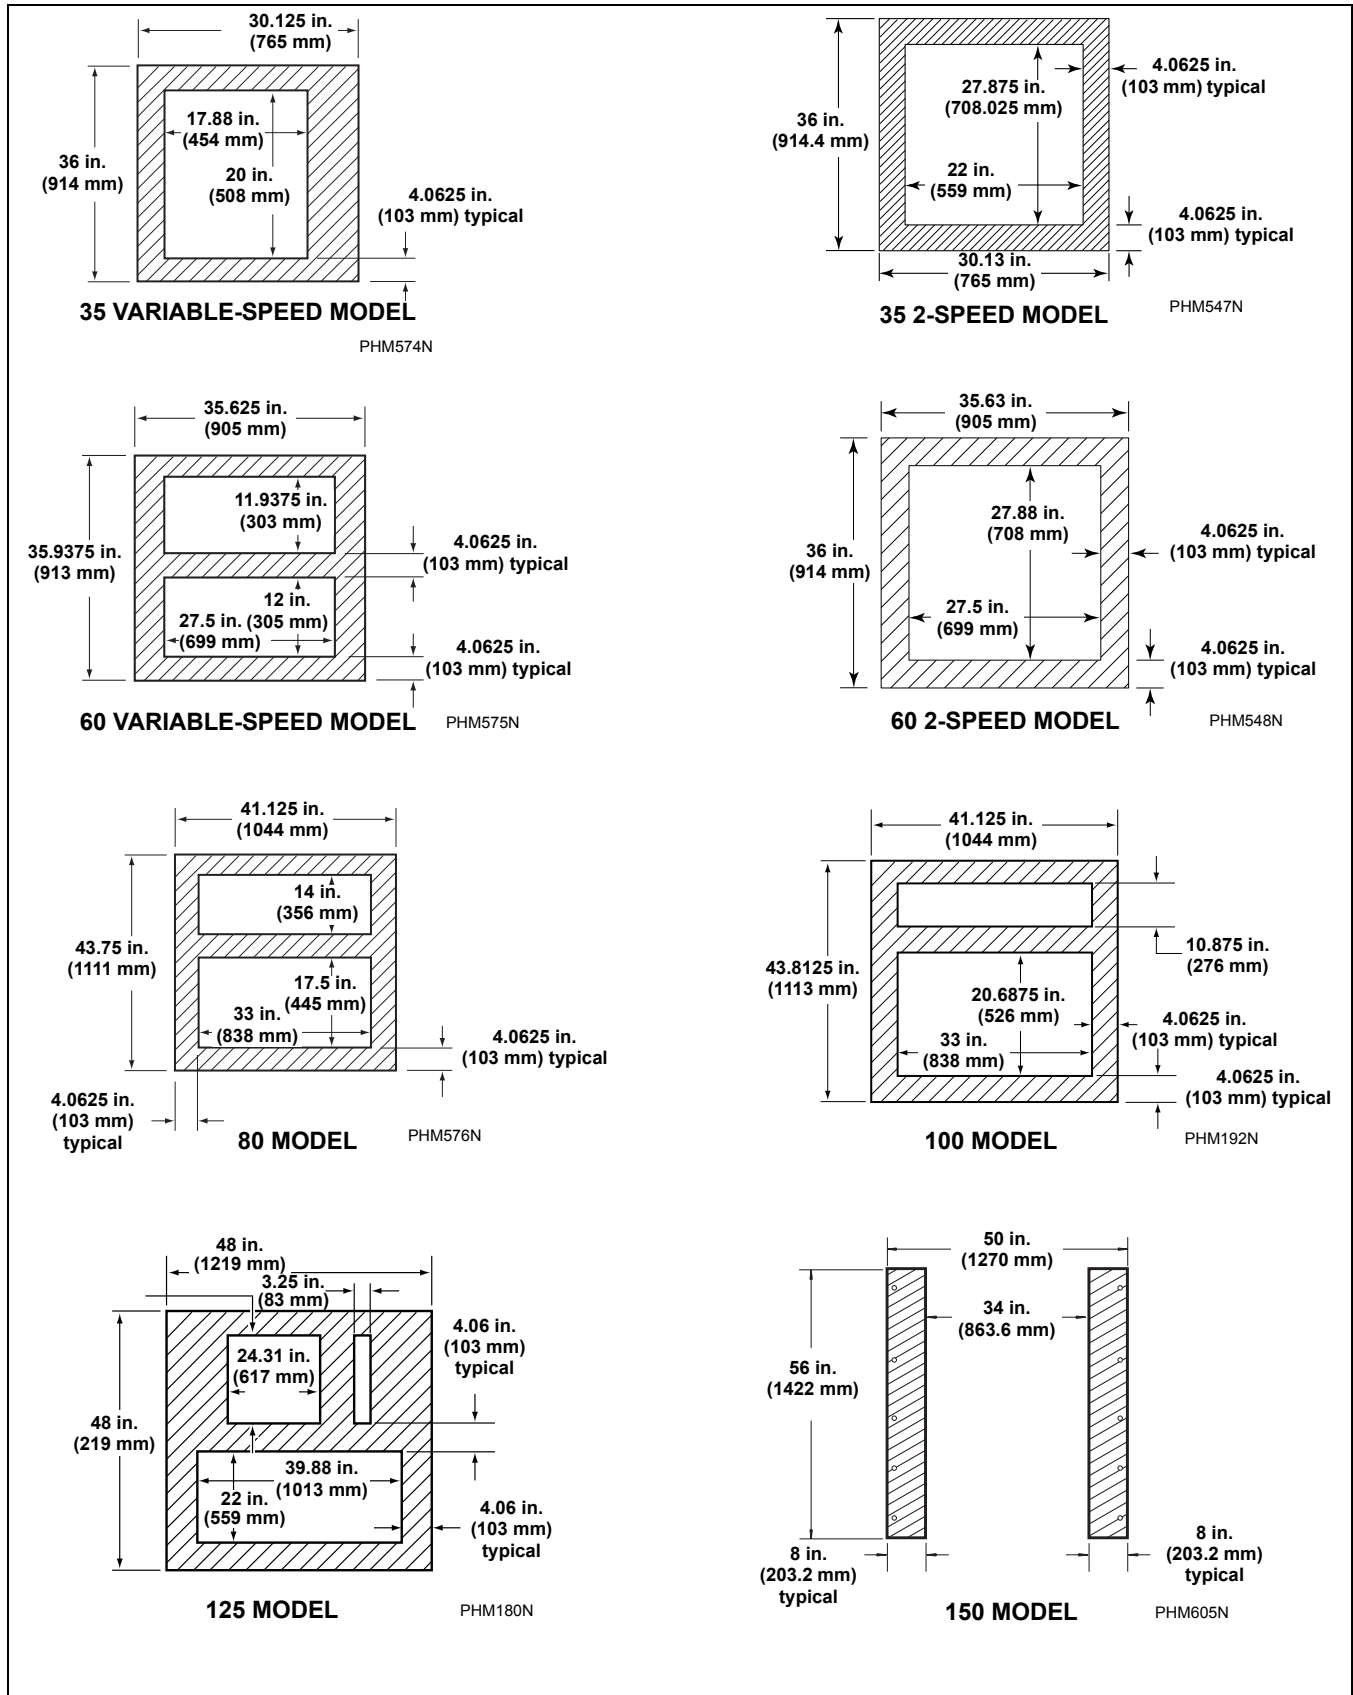

Figure 17
5. Fill the space between the washer-extractor base and the floor with a good quality **non-shrinking machinery precision grout** to ensure a stable installation. Grout completely under all frame members. (Remove front panel and back panel to gain access to **all** frame members.) Refer to *Figure 17*. Force grout under machine base until all voids are filled.